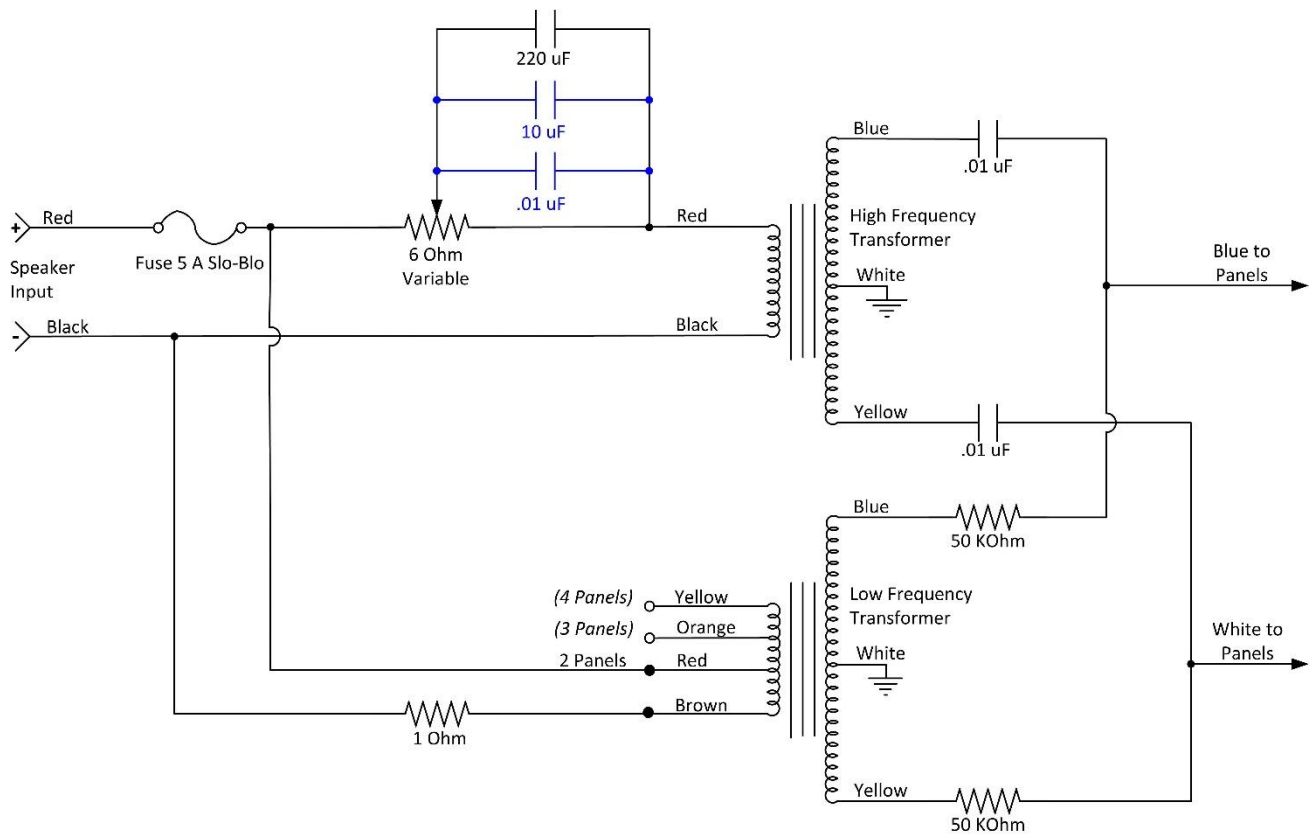

Figure 12. High-frequency input enhanced with added capacitors (blue colour) - 1982.
- After the input capacitor enhancement (Fig. 12), no other work was done to these electrostatic speakers between 1982 and 2022.